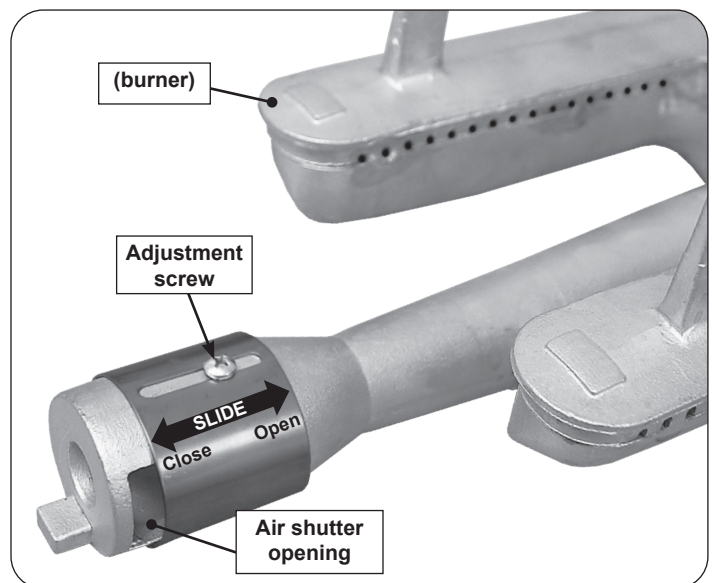

Fig. 43-2 Main burner air shutter adjustment detail
1. To adjust the air shutter, loosen the adjustment screw with a Phillips screwdriver. Then slide the shutter to open or close it. See Fig. 43-2 for details.